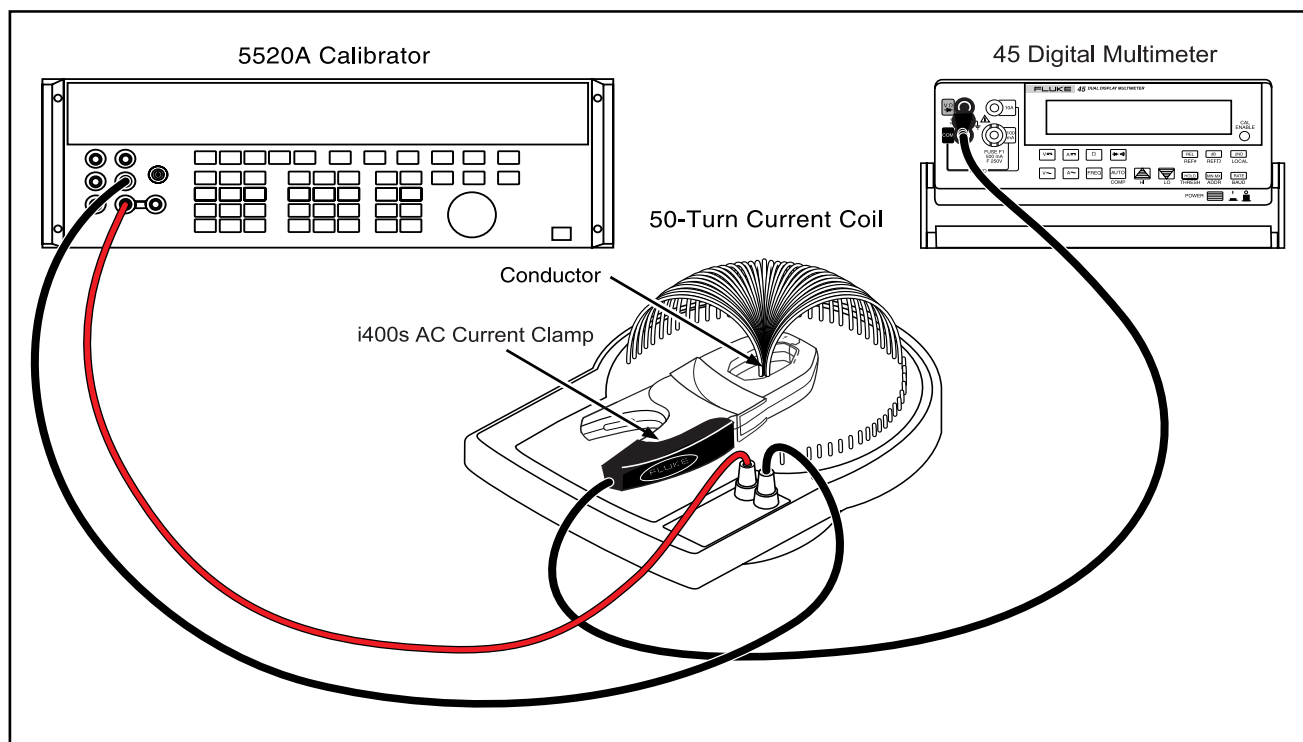

Figure 2. Current Accuracy Test Connections
1. Connect the equipment as shown in Figure 2.
- 1. Using the equipment connections shown in Figure 2, set the 5520A output for 2 A, 45 Hz.